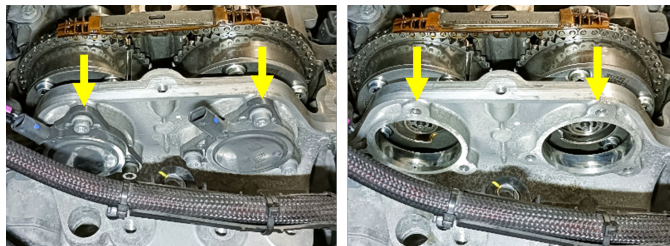

Fig. 8
17. Remove the camshaft phase solenoid valves (1056F48) from both camshaft adjusters Fig.8.